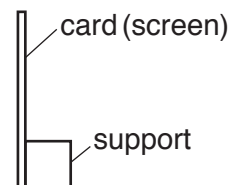

Fig. 3.2
- (iv) Screen. A white sheet of stiff card approximately 15 cm × 15 cm, fixed to a wooden support is suitable. See Fig. 3.2.